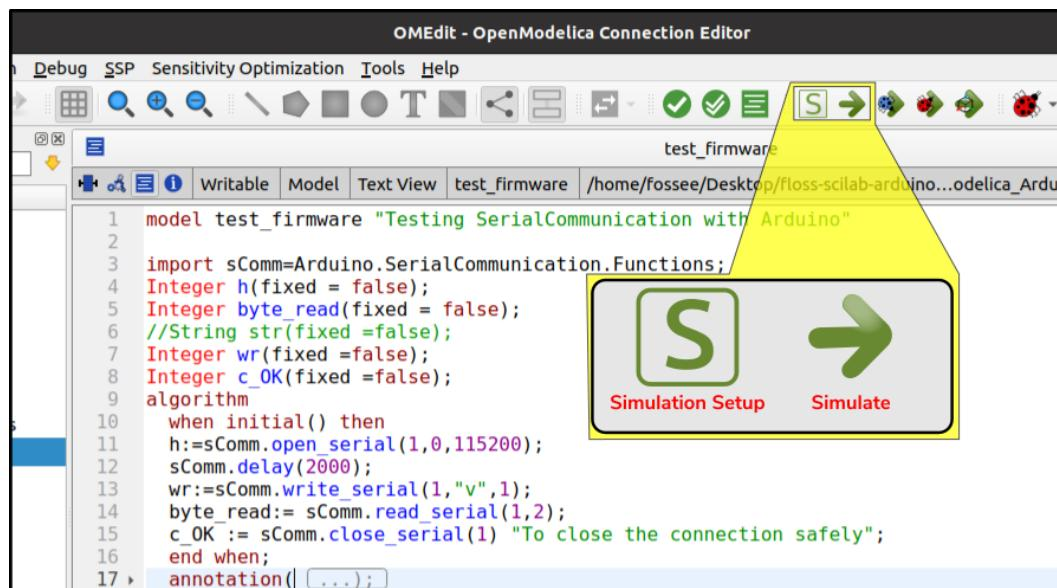
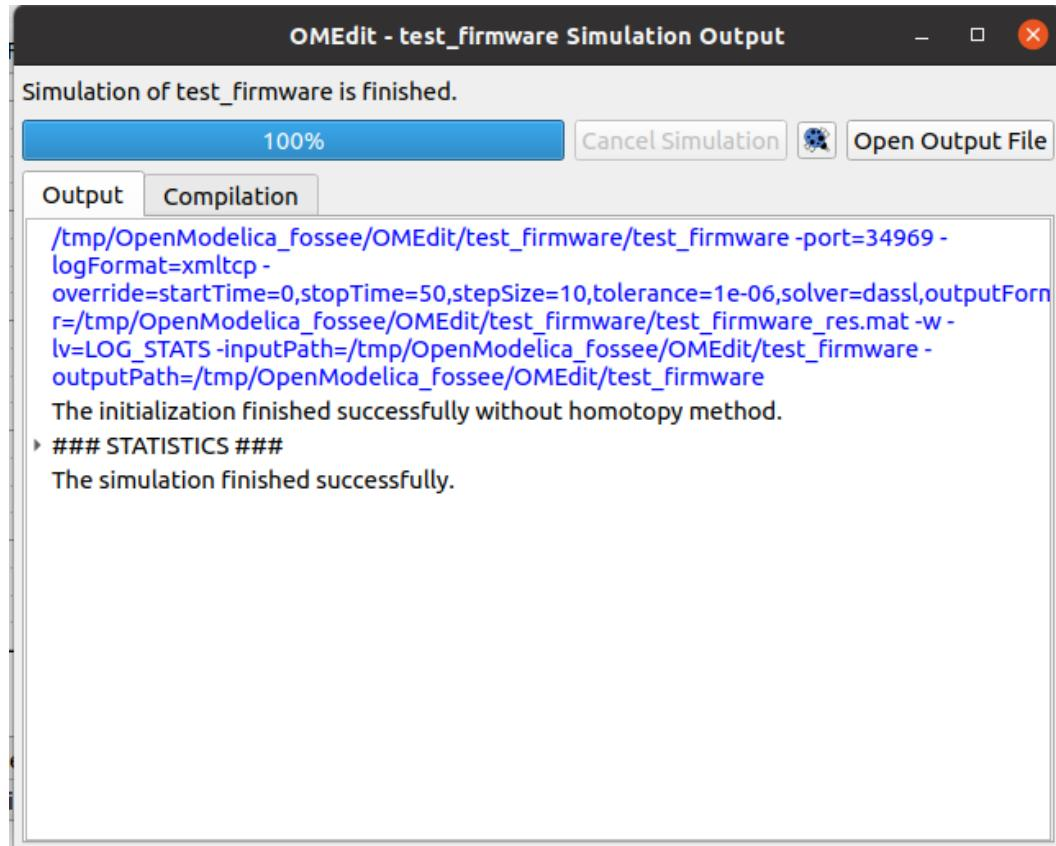

Figure 3.42: Simulating a model in OMEdit
Figure 3.43: Output window of OMEdit
Now, we will see how to simulate this model. For this, we need to ensure that OMEdit is in Modeling Perspective. Next, we will click on the green right-sided arrow, named as Simulate, as shown in Fig. 3.42. When we click on Simulate, OMEdit will first compile the model and then, it will simulate the model for the time specified in the model itself. As OMEdit provides an elegant user interface for simulating the models, it will open an output window the moment you click on Simulate. Fig. 3.43 shows the output window after the simulation of our model is finished. Also, we can observe that the OMEdit is now in Plotting Perspective.
As shown in Fig. 3.43, OMEdit displays the message that "The Simulation finished successfully". Had there been any error in simulating the model, we would not have received this message.
**OpenModelica Code 3.1** An OpenModelica code/model to check whether the firmware is properly installed or not. Available at Origin/tools/openmodelica/windows/test\\_firmware.mo, see Footnote 2 on page 2. Locate this file inside OpenModelica-Arduino toolbox, as explained in Sec. 3.6.4. Simulate this code/model by following the steps given in Sec. 3.6.3. If the simulation is successful, you should expect an output window in OMEdit as shown in Fig. 3.43.